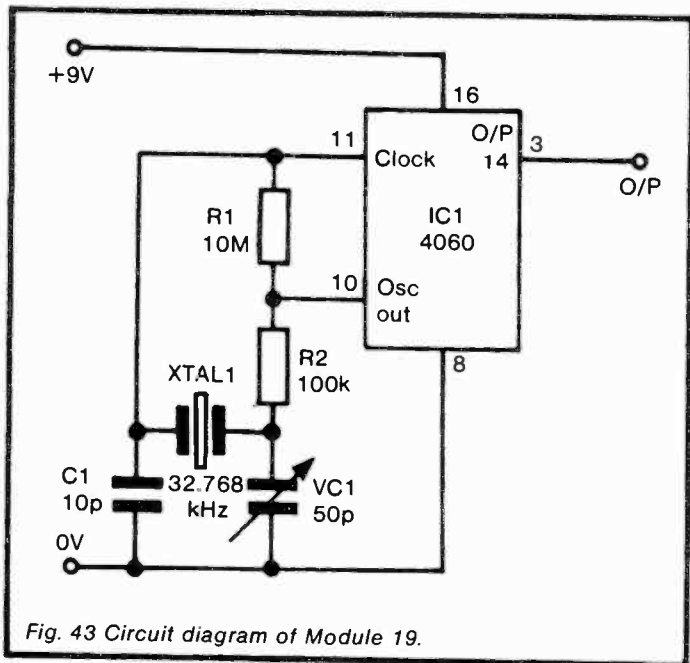

Fig. 43 Circuit diagram of Module 19.
*Circuit diagram:* see Figure 43.